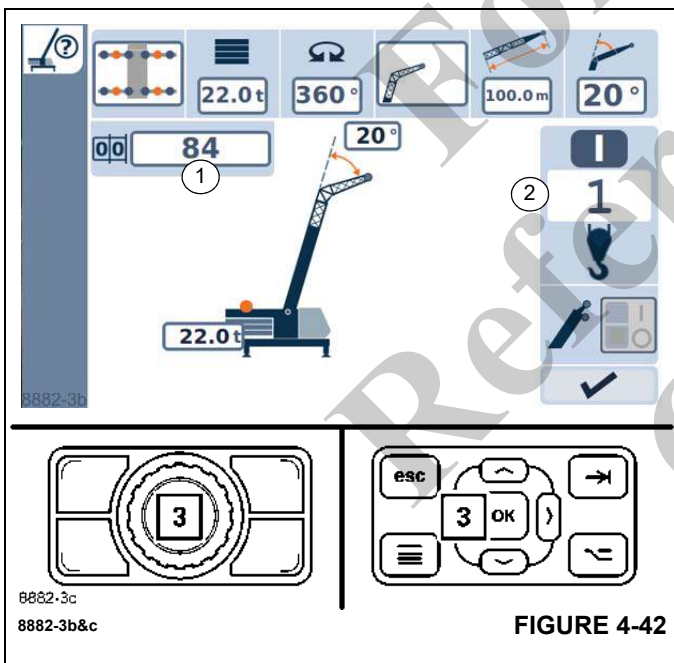

FIGURE 4-42
The last set rigging mode will be displayed, and symbols (1), (Figure 4-42) and (2) will be green and flashing.